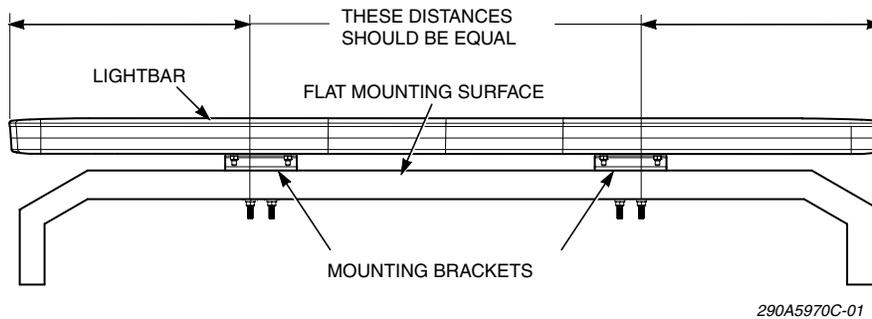

Figure 1: Lightbar centered on the vehicle roof
1. Center the lightbar assembly on the flat mounting surface as shown in Figure 1.